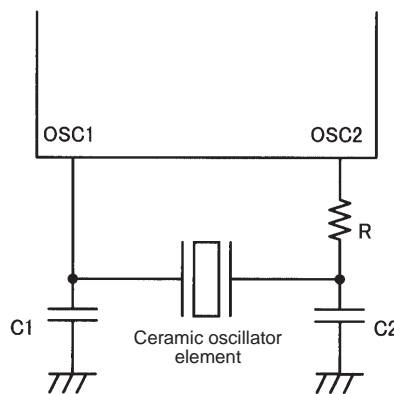

Figure 2 Ceramic Oscillator Circuit
- Notes: 1. Allowed up to the amplitude generated when the oscillator shown in figure 2 is used with the recommended circuit constants and driven by the IC.